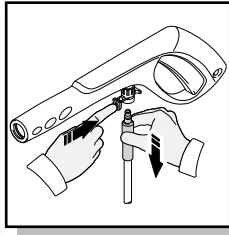
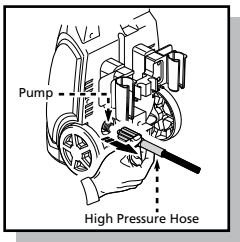

Fig. 23
Fig. 24
- Remove high pressure hose from spray gun (Fig.23) and unscrew the other end of the high pressure hose from the power washer (Fig.24).